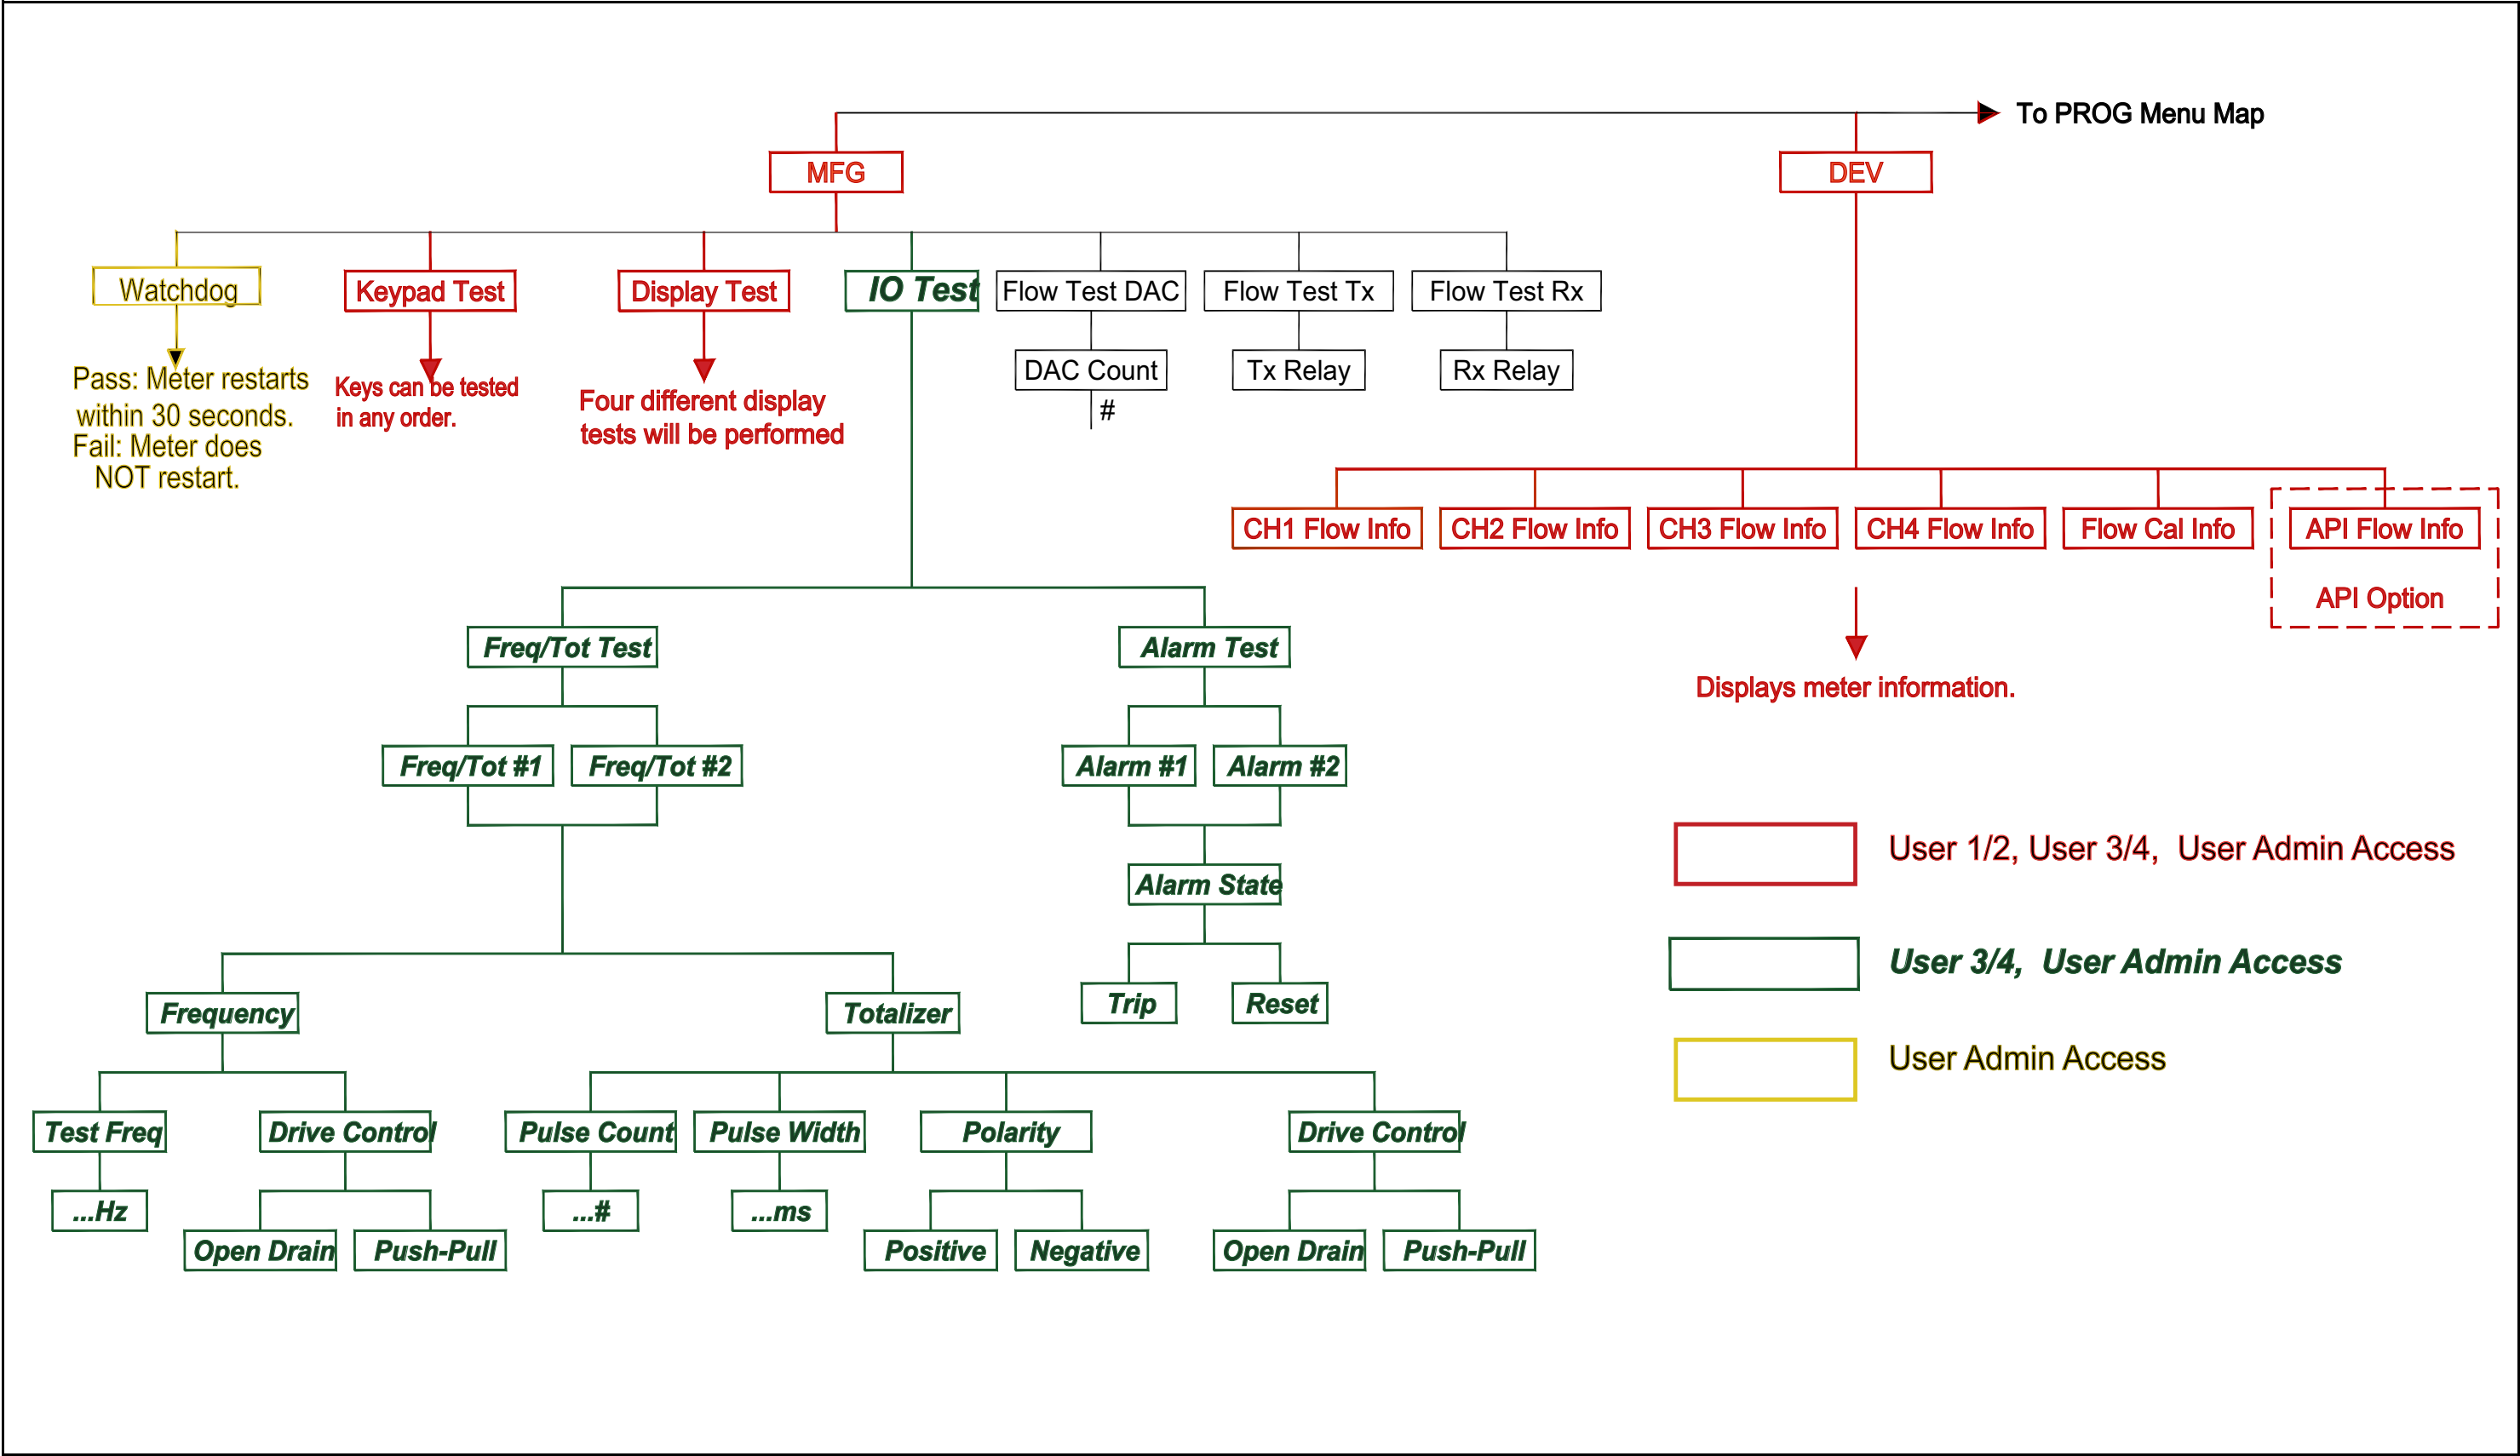

Figure 61: MFG and DEV Menu Map
- Figure 61: MFG and DEV Menu Map